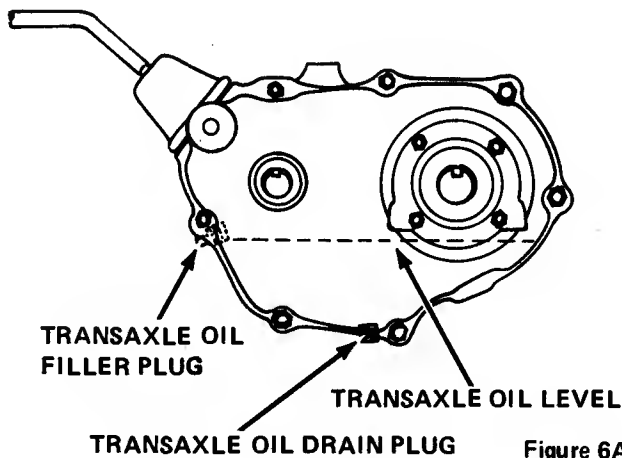

Figure 6A
3. Wipe dirt from around the oil level filler plugs. See Figure 6A.
4. Remove filler plug. Oil level should level with the filler plug hole, see Figure 6A.